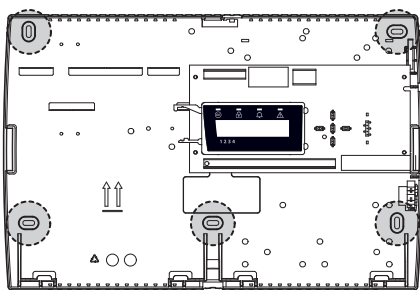

fig. 3
- using the Control Unit base as a template, mark the position of the fixing holes shown in figure 3, making sure that the wall is flat at the point chosen;